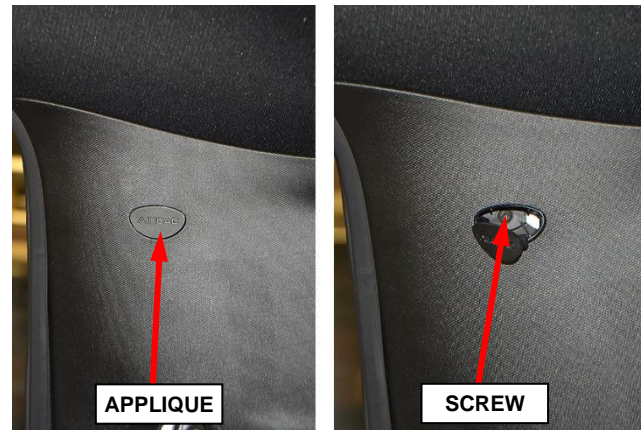

Figure 10 – C-Pillar Upper Trim Panel
17. Using a trim stick or equivalent, release the C-pillar airbag applique then remove the screw that secures the upper trim panel (Figure 10).
43. Install and tighten the screw that secures the C-pillar upper trim panel. Then install the airbag applique (Figure 10).